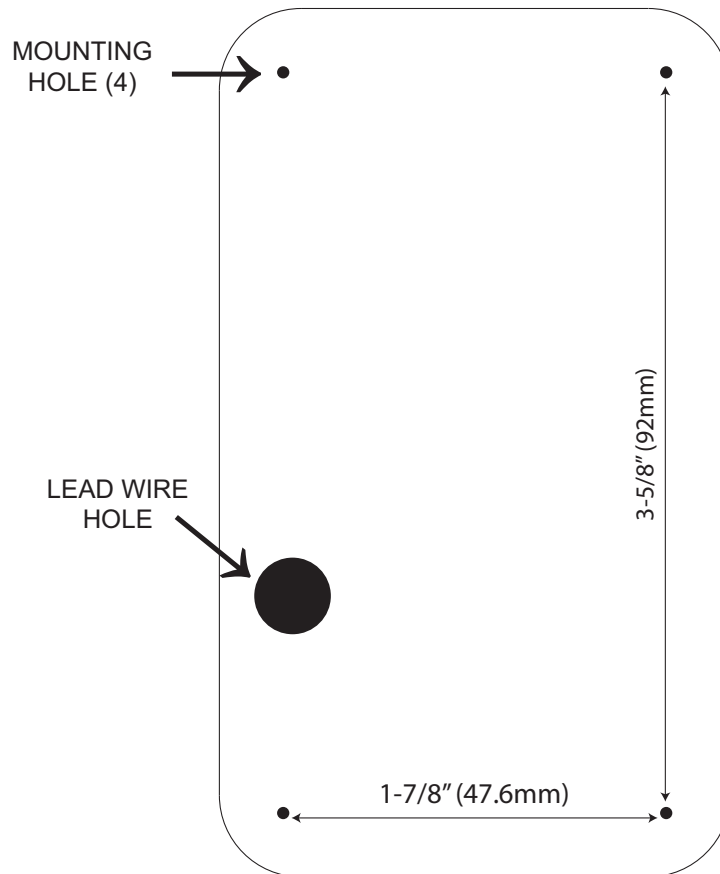

Fig. 4 - Wall-Mount Template
3. Using the mounting template (Fig. 4) on Pg. 3, drill the four mounting holes using a 5/64” (2mm) drill bit. Next drill the hole for the wire leads using a 3/8” (10mm) drill bit.